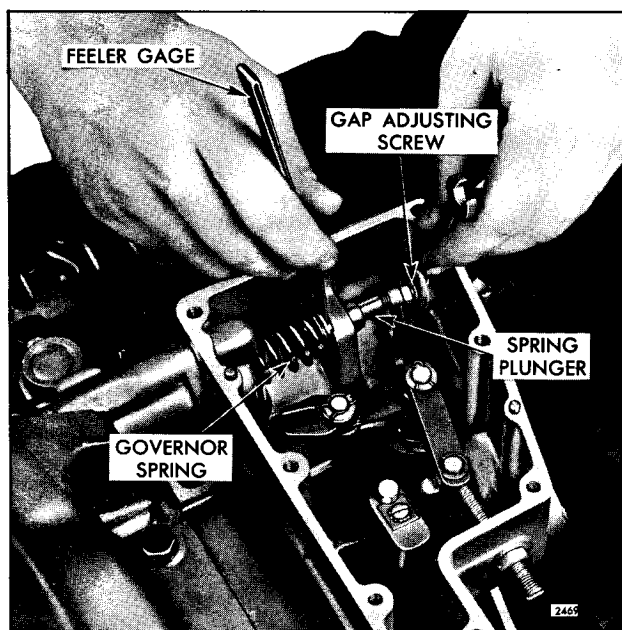

Fig. 1 - Adjusting Governor Gap
3. Insert a .006" feeler gage between the spring plunger and the plunger guide as shown in Fig. 1. If required, loosen the lock nut and turn the adjusting screw until a slight drag is noted on the feeler gage.